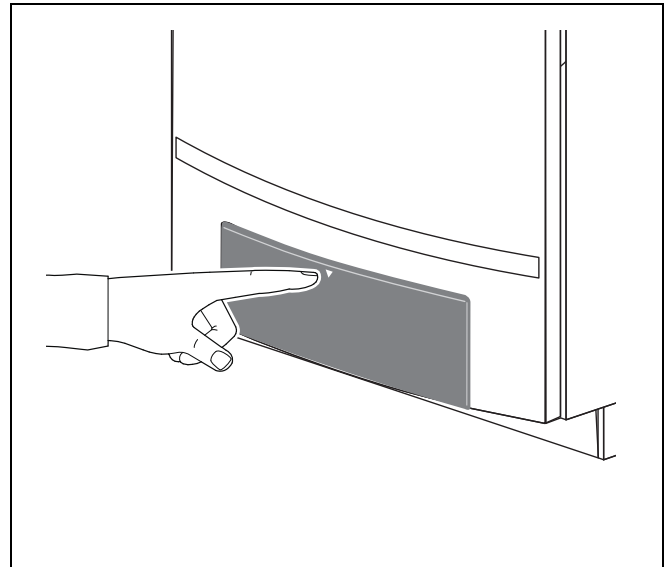

fig. 2 Opening the control panel
The boiler is fitted with a control unit, the BC10 basic controller (→ fig. 2). This controller can be used to control the heating system.
- Push on the control panel to open it (→ fig. 2).